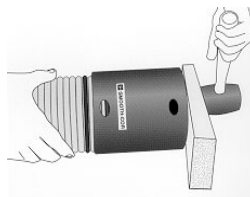

Figure 27
4. Use a mallet and wood block to seat the coupler until the home-mark is covered. Note that the small lock ring on the inside surface of the coupler snaps into a matching corrugation as shown on Figure 27.